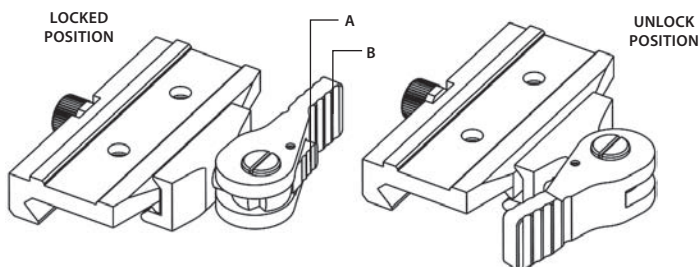

FIGURE 3-5. MOUNT. TOP VIEW
3. Unlock the clamping device of the CO-MINI mount by pushing down on the lever holder (A, Figure 3-5) and unlocking the cam lever (B).
5. Affix the CO-MINI to the rail by locking the cam lever (B, Figure 3-5).